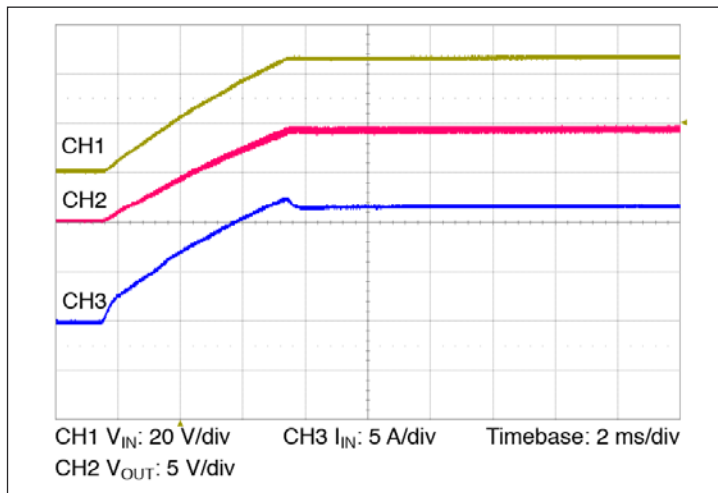

Figure 10 — Start up from application of V_{IN} ; VC pre-applied $C_{OUT} = 1000 \mu F$
- **Normal operation (VC applied prior to V_{IN}):** In this case the controller is active prior to ramping the input. When the input voltage is applied, the VTM module output voltage will track the input (See Figure 10). The inrush current is determined by the input voltage rate of rise and output capacitance. If the VC voltage is removed prior to the input reaching 26 V, the VTM may shut down.